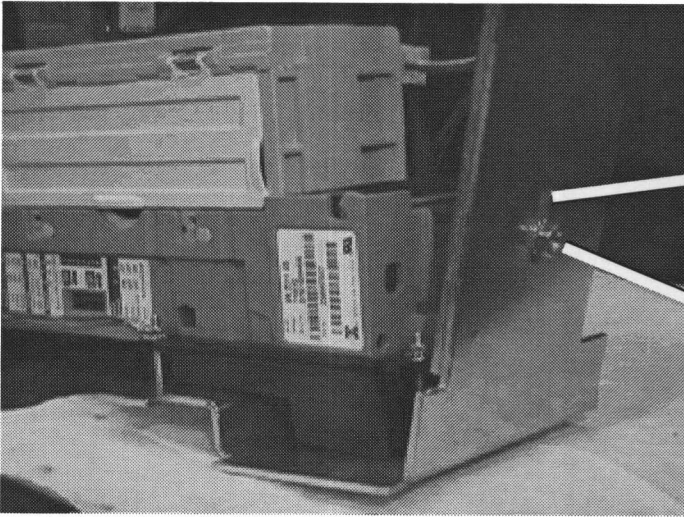

Figure 13
- E. The slider bracket included with the kit is adjustable using the slot located on the top of the bracket. Insert the carriage bolt included so that it is coming up from underneath the bracket and attach the hex nut to hold it in place(Figure 13). Then insert the bracket in the bill changer and close the door (Figure 14). Make adjustments as necessary to the carriage bolt/hex nut so that the door closes but is snug against the door (See Figure 15). Tighten the hex nut when satisfied.